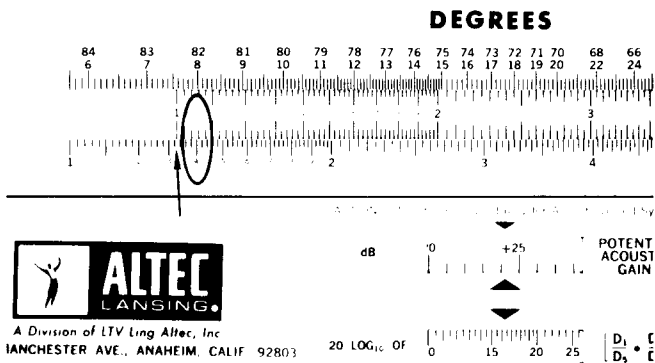

Figure 12
3. Find 1400 on the "D" scale and place 106 on the "C" scale directly above it. Opposite 1 on the "C" scale, read the number on the "D" scale. For example, $\frac{1400}{106} = 13.2$ (see Figure 12).